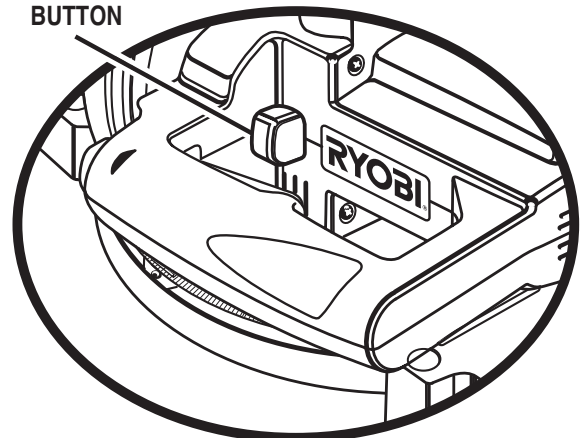

Fig. 18
- Depress the spindle lock button and rotate the blade bolt until the spindle locks. *See Figure 18.*